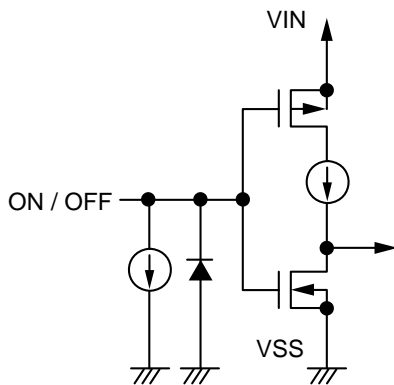
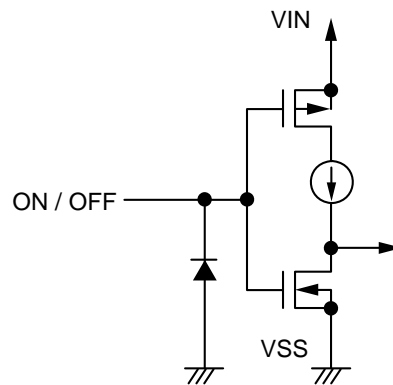

Figure 18 S-1313 Series A / C type
Figure 19 S-1313 Series B / D type
When the ON / OFF pin is set to OFF level, the entire internal circuit stops operating, and the built-in P-channel MOS FET output transistor between the VIN pin and the VOUT pin is turned off, reducing current consumption significantly. Note that the current consumption increases when a voltage of 0.25 V to $V_{IN} - 0.3$ V is applied to the ON / OFF pin. The ON / OFF pin is configured as shown in **Figure 18** and **Figure 19**.
*1. Note that the IC's current consumption increases as much as current flows into the constant current of 0.1 μ A typ. when the ON / OFF pin is connected to the VIN pin and the S-1313 Series A / C type is operating (refer to **Figure 18**).